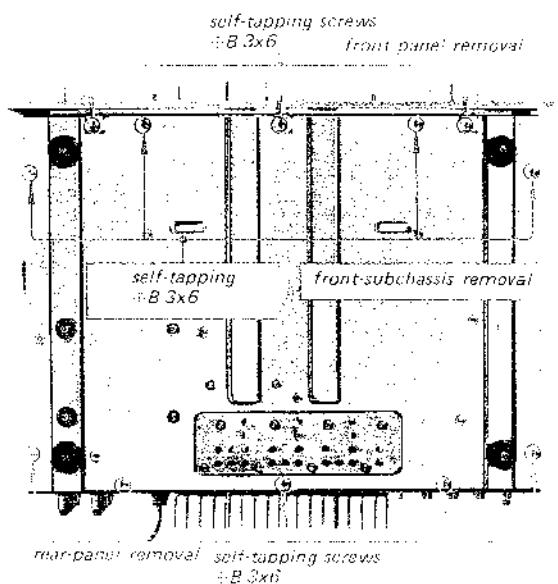
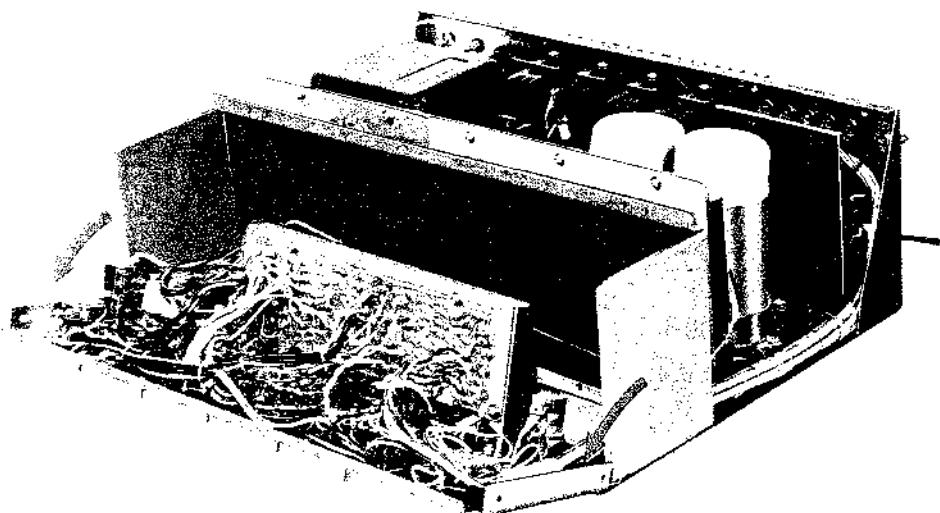

Fig. 2-3. Removal.
Fig. 2-4. Front subchassis removal.
4. Remove the three self-tapping screws (+B 3x6) at the front bottom of the chassis as shown in Fig. 2-3. This frees the front panel.
2. Remove the two screws ($\#8\text{-}3x6$) at each side of the chassis (see Fig. 2-5) and four self-tapping screws ($\#8\text{-}3x6$) at the front bottom of the chassis as shown in Fig. 2-3. This frees front subchassis as shown in Fig. 2-4.